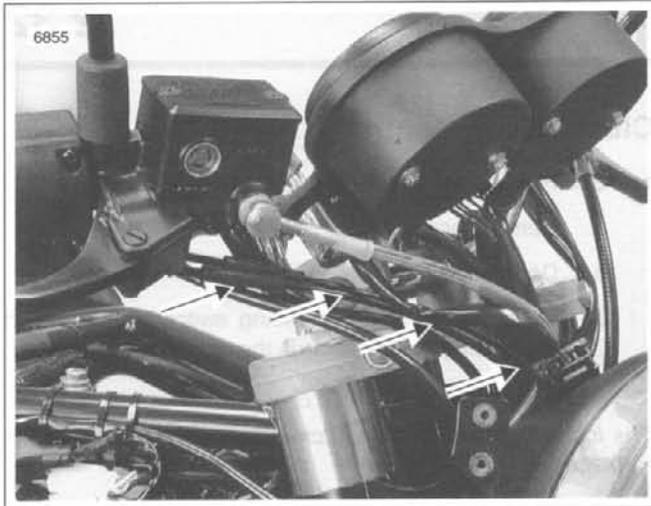

Figure 2-128. Handlebar Routing
- a. See Figure 2-128. Cables must be routed forward from throttle control grip, forward of upper triple clamp and to the left.